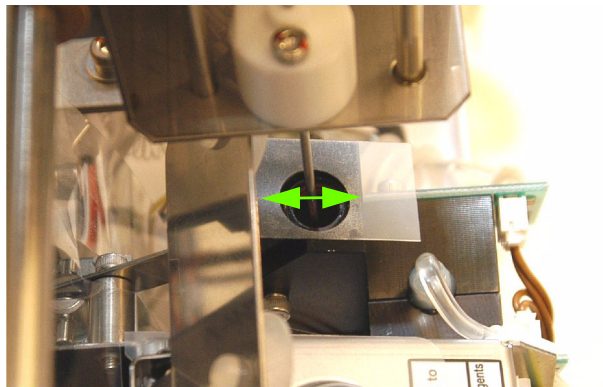

Fig.7: needle centering
- ◆ Adjust the CRP unit position to have the needle centered in the CRP chamber (See "Fig.7: needle centering, page 4") then tighten the screws.